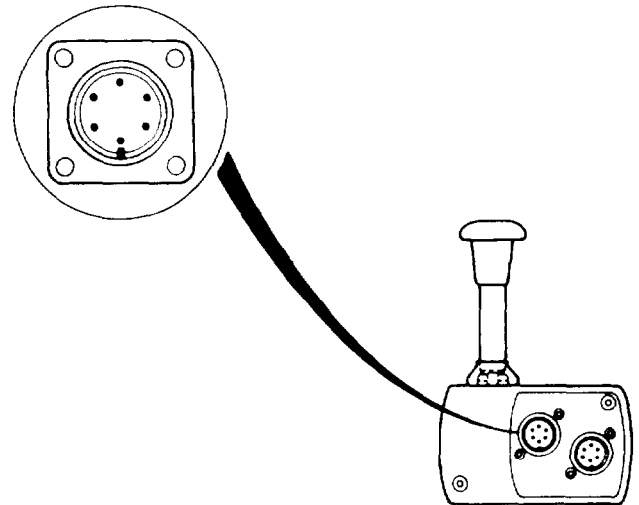

Figure 10C-2 Propel Control Station
3. Establish the test setup shown in Figure 10C-2.